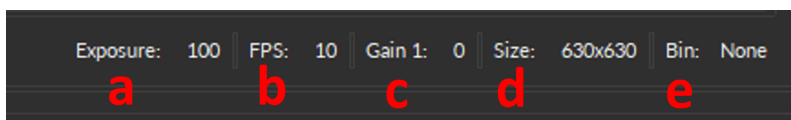

Figure 7.22: Microscope Monitoring Bar
1. The **Sensor(s)** tab (Fig. 7.22, 1) - displays each sensor's live video feed, where the ROI(s) can be drawn, edited, or deleted. For multi-sensor microscopes, changing the tab allows you to see the image available to each sensor, and for some microscopes, you can also select the overlay. See the **ROI(s)**, the **Imaging Options**, and/or the **View** tabs to modify microscope parameters (Sections 7.15, 7.17, 7.18, respectively).
2. The **Microscope Monitoring Bar** (Fig. 7.22, 2) displays the parameters currently being used during the recording:
- a) The **Exposure** (Fig. 7.22, 1) displays the value specified in Section 7.3.4, no. 1.
- b) The **FPS** (Fig. 7.22, 2) the number of frames per second of the device. The maximum attainable frame rate in frames per second (fps) cannot surpass 1 divided by the exposure time in seconds. Thus increasing or decreasing the exposure in Section 7.3.4, no. 1 will change the **FPS**.
- c) The **Gain** (Fig. 7.22, 3) displays the value specified in Section 7.3.4, no. 2.
- d) The **Size** (Fig. 7.22, 4) displays the image resolution. If the image is **Cropped** (Section 7.3.4, no. 4) this value will be automatically updated.
- e) The **Bin** (Fig. 7.22, 5) displays the value (none, 2x2 or 4x4) specified in Section 7.3.4, no. 5.